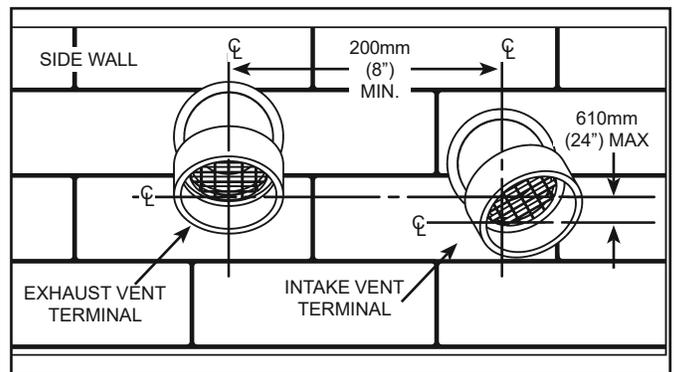

Figure 18.
**Important:** When terminating the vent on a side wall, the following specifications pertaining to terminal location must be followed (see Figure 18).
4. To avoid exhaust recirculation, the air intake terminal may be rotated away from the exhaust vent terminal (see Figure 18).